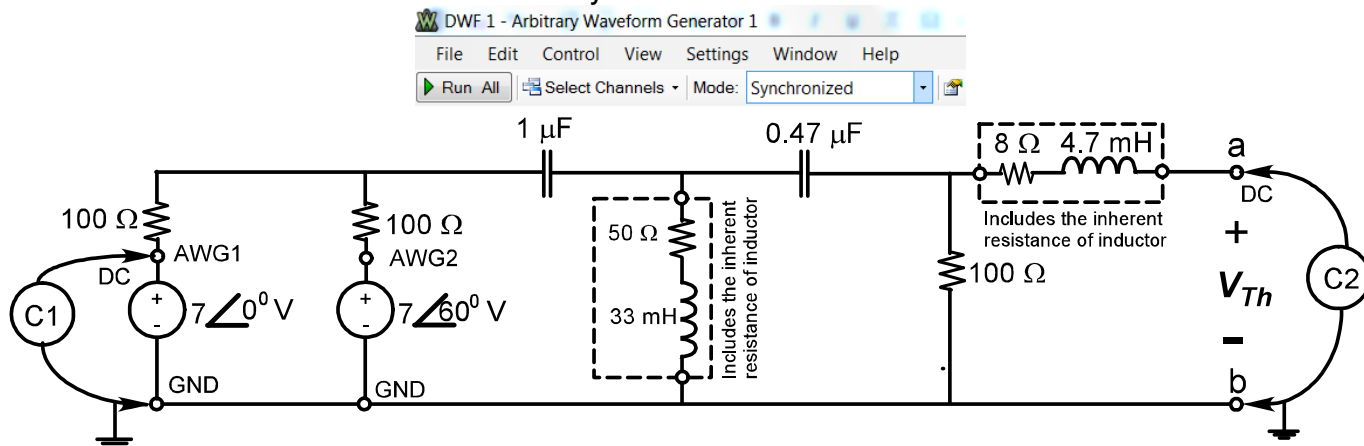

Figure 1—Circuit Diagram for *Thevenin Analysis*
- 1.2 Re-draw Figure 1 in the phasor domain, based on a frequency of 5 kHz.
- 1.3 Compute the Thévenin equivalent for the circuit described in Figure 1. Report your answer as a phasor, with peak voltage magnitude and give the angles in degrees. Model the 33 mH inductor with an inherent resistance of about 50Ω and the 4.7 mH inductor with about 8Ω .
Measure the nominal values of each individual component shown in Figure 1, using one of the R, L, C meters at the front of the lab and re-do the predictions in the pre-lab with the new nominal values. When doing the calculations the angle of AWG1 is zero so that V_{Th} is expressed with respect to AWG1. Also, predict the new value of P_{max} .
Connect the circuit of Figure 1. Set the AWGs to give 7 V_{peak} at 5 kHz sinusoidal output. Be sure the AWG “Mode” is set to “Synchronized” as shown: